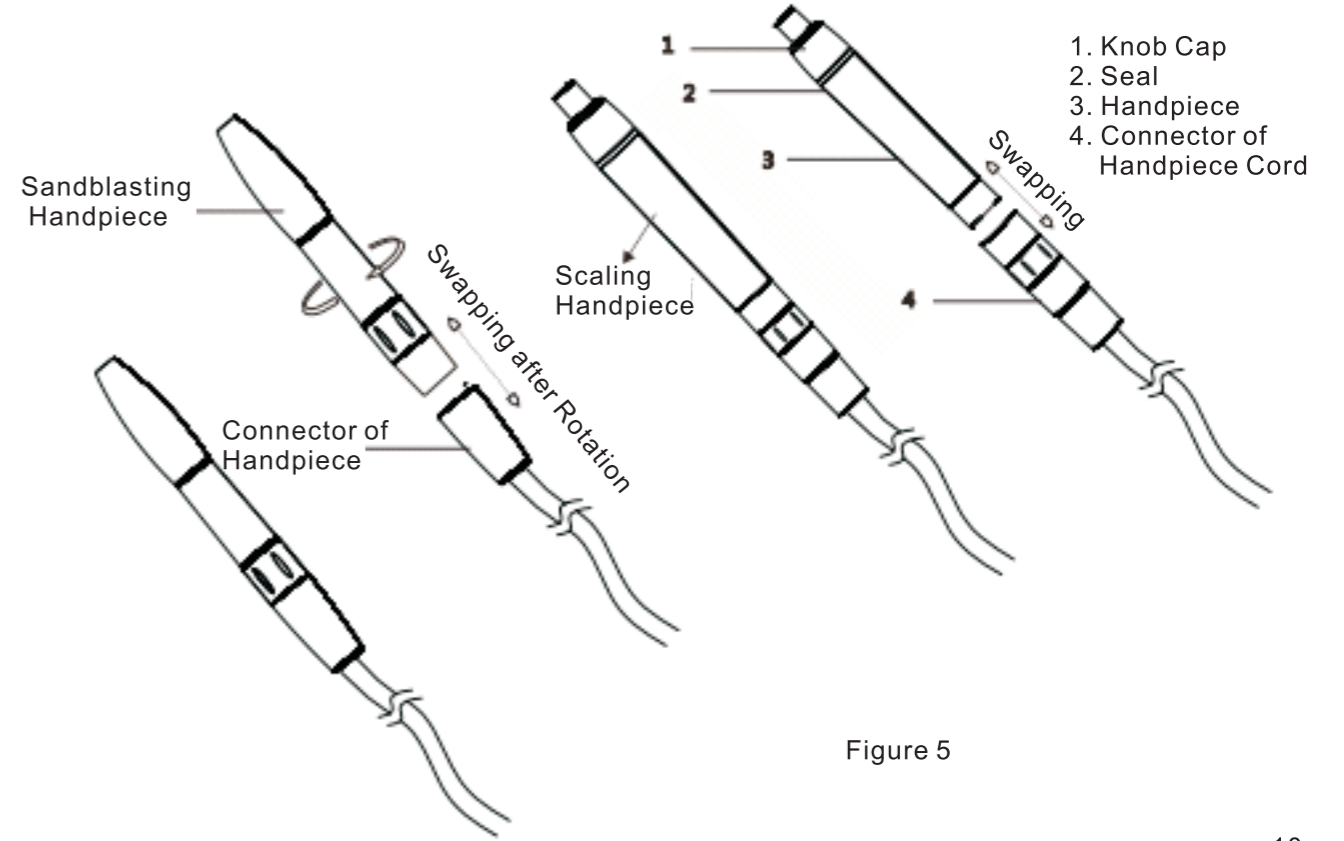

Figure 5
- 2) Connecting the sandblasting handpiece to the connector of sandblasting handpiece cord. (See figure 5)